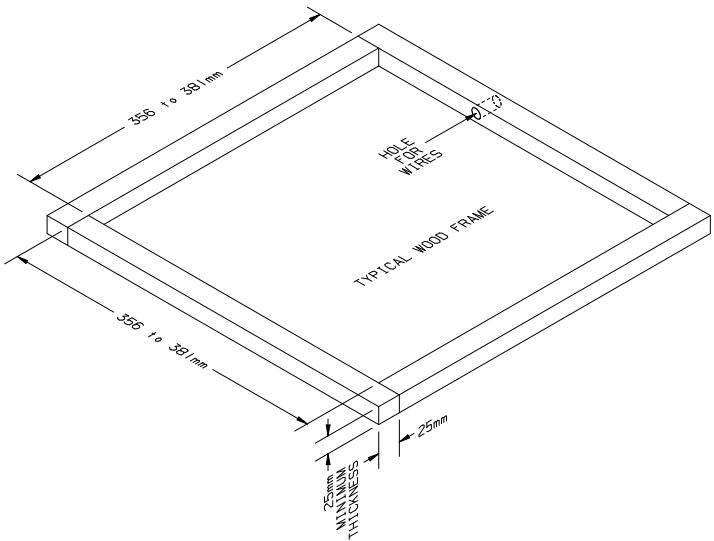

FIGURE 1
- B. If a roof vent opening is not used, a new opening (See Figure 1) will have to be cut into the vehicle roof. A matching opening will also have to be cut into the interior vehicle ceiling. If the ceiling opening is carpeted, snagging could occur. After the opening in the roof and interior ceiling are the correct size, a framed support structure must be provided between the exterior roof top and interior ceiling. The reinforced framed structure must provide the following guidelines:
- Airxcel, Inc. recommends that the spacing from the vehicle roof top to the interior ceiling top be no less than 25mm. A typical support frame is shown in Figure 1.